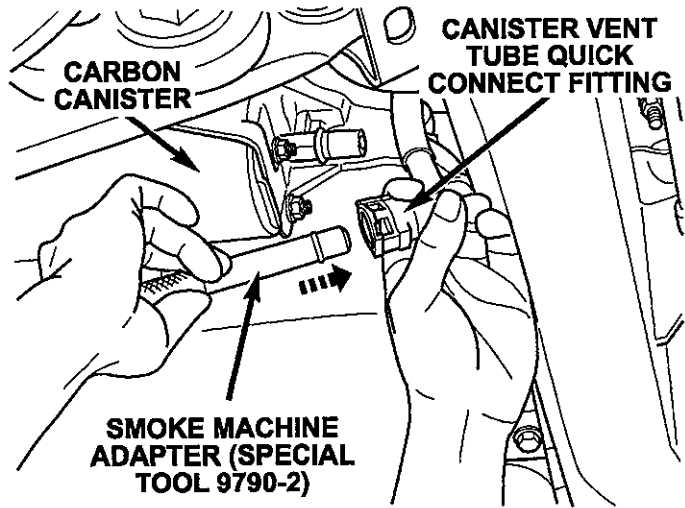

Figure 4 – Connect Smoke Machine
6. Connect the Smoke Machine Adapter (Special Tool 9790-2) to the canister vent tube quick connect fitting (Figure 4).